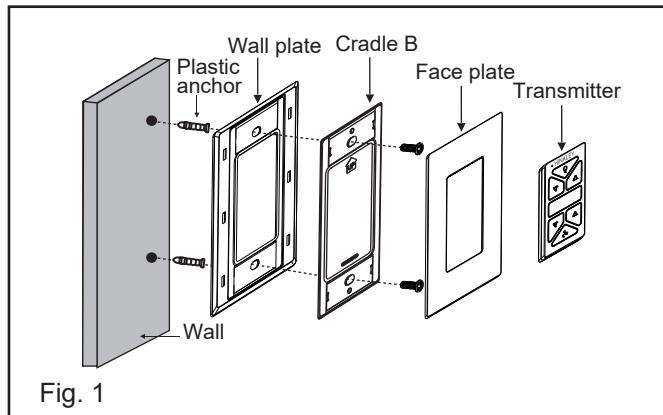

Fig. 1
1. Select a desired location. Use the wall plate to mark the location of the mounting holes. Plastic wall anchors or mounting screws are needed for this application. (Fig. 1)